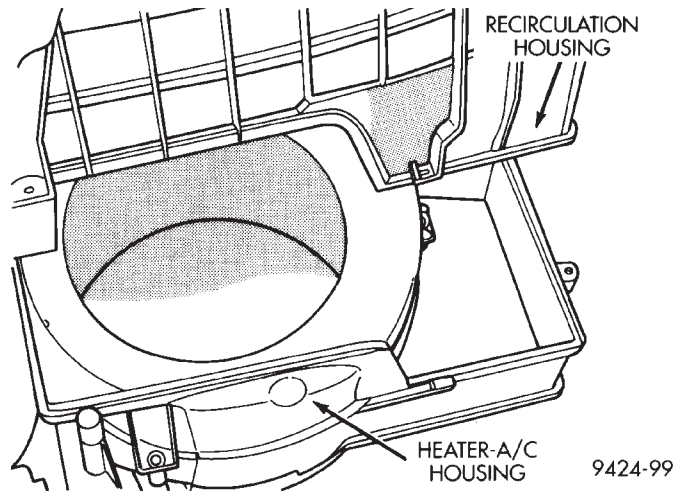

**Fig. 93 Recirculation Housing**
(20) Install blower motor wiring to the blower motor resistor.
(21) Position recirculation housing to A/C housing (Fig. 93). Install retaining screws and clip.